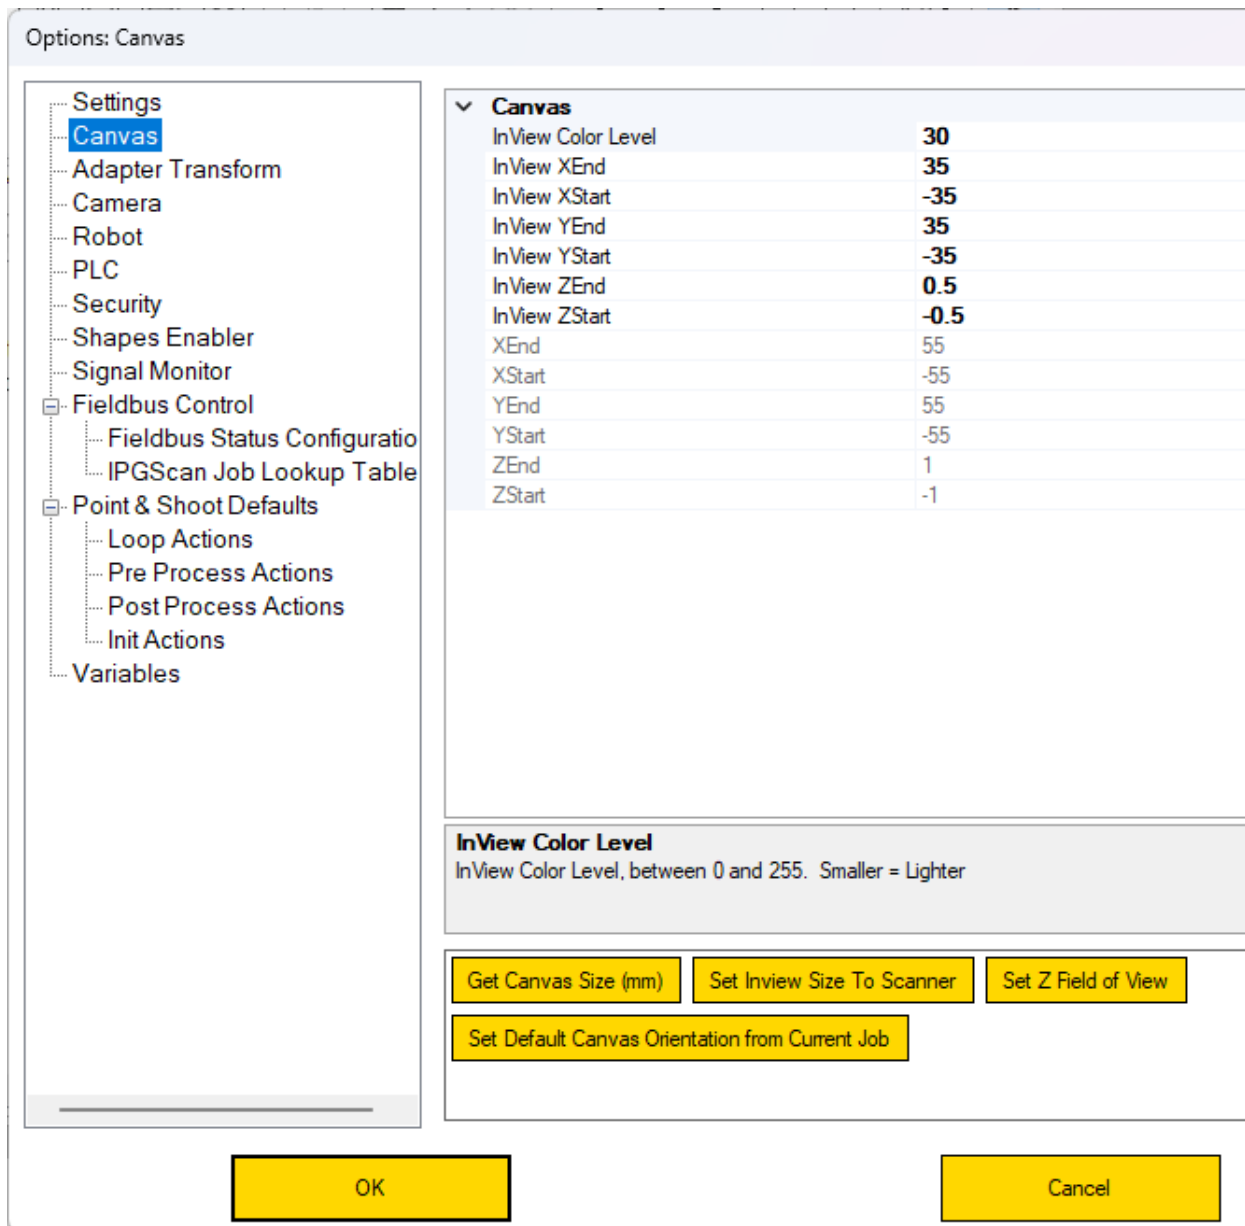

Figure 252: PGScan Canvas Settings
4. Select "Canvas." See Figure 252 (below).